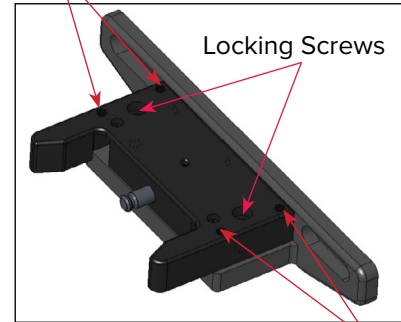

Fig. 68
- a. Begin by adjusting the height of the Foot Latch Mounting Block on the existing CT, by loosening the (2) Locking Screws  $\frac{1}{4}$ –20 (Fig. 68).